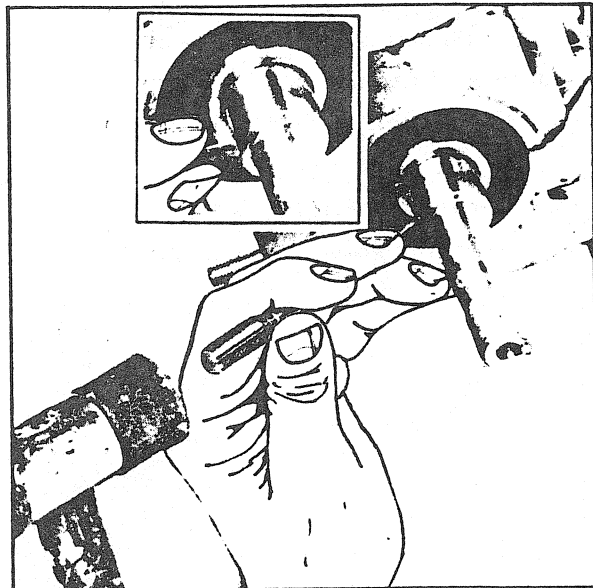

FIGURE 14
- With a drive punch, remove woodruff key from crankshaft (fig. 14).